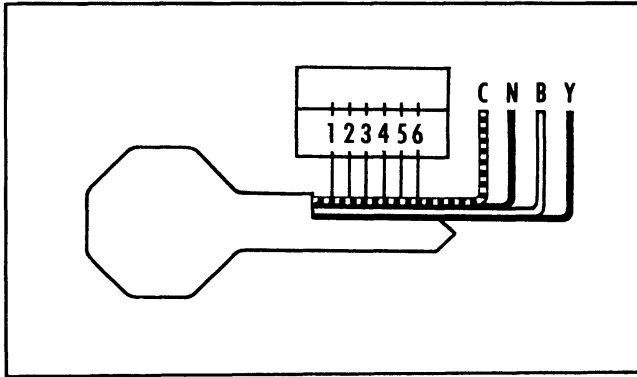

Fig. 1-7 Key Coding Diagram
1. Place key on diagram (Fig. 1-7) with bottom, head and point aligned.